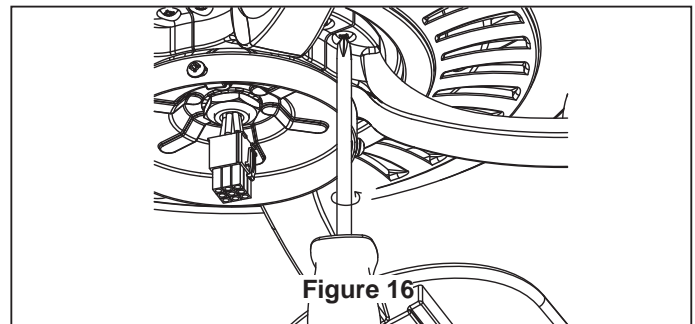

Figure 16
3. Secure the blade holders to the motor support using the 1/4-20 x 15 mm screws through the holes located on the side of the motor support. (Figure 16)